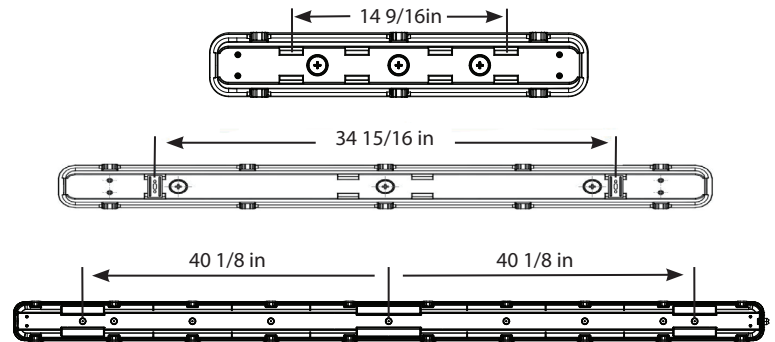
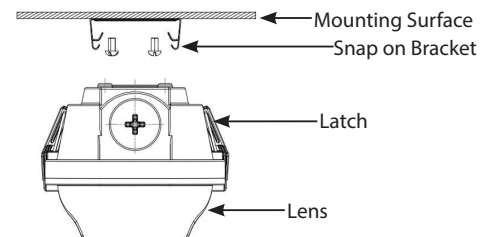
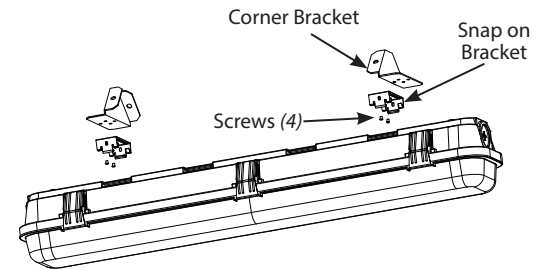

Fig. 1
Fig. 3
Fig: 5
1. Use appropriate mounting hardware (*not supplied*) to secure the **Snap on Brackets** to mounting surface. Refer to recommended **Snap on Bracket** spacing in Fig. 1 for **SEAL 2ft**, **SEAL 4ft** and **SEAL 8ft**.
**WARNING: Mount Snap on Brackets symmetrical about the center as shown in Fig. 1. Snap on Brackets must be aligned with each other to secure Housing.**
8. Snap **Housing** on **Snap on Brackets** as shown in Fig. 3.
1. Snap **Housing** on **Snap on Brackets** as shown in Fig. 3.
Ordered separately - Fig. 5 & 6:
1. Use appropriate mounting hardware (*not provided*) to secure the **Corner Brackets** (2) to the mounting surface as shown in Fig 5. **Corner Brackets** must face towards each other. Recommended **Corner Bracket** distance center to center is 14-13/25" for SEAL 2ft and 34-19/20" for SEAL 4ft & SEAL 8ft.
2. Secure (2) **Snap on Brackets** (*supplied standard with Housing*) to **Corner Brackets** (2) with **Screws** (4 *provided*).
3. Snap **Housing** on **Snap on Brackets** (2) as shown in Fig. 3, Page 1. Ensure that the **Housing** is secure on **Snap on Brackets** (2) onto the grooves on **Lens** as shown in Fig. 1, Page 1.